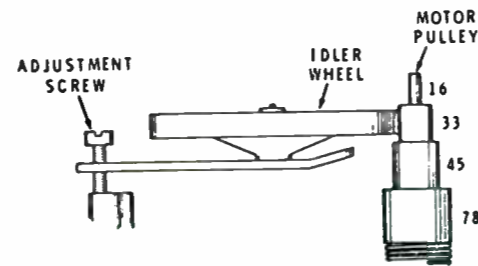

Figure 12
Disconnect changer form AC source and remove turntable (169). Set speed selector knob on 33 and reject knob to on so idler pulley (133) rests against the 33 rpm step on motor pulley (115). Using a screwdriver, turn adjustment screw (129) until idler pulley (133) is centered on the 33 rpm step of motor pulley. Check the alignment of idler pulley (133) at all speeds and readjust if necessary. Move reject knob to off and replace turntable (169) taking care not to damage idler pulley (133). (See fig. 12)